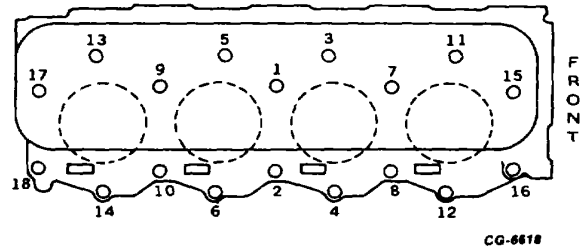

Figure 47. Cylinder Head Bolt Tightening Sequence
- c. Following sequence shown in (Figure 47) tighten cylinder head bolts the first two specified torques. Then for the final torque tighten the bolts in this sequence, 11, 3, 5, 13, 17, 9, 1, 7, 15, 16, 8, 2, 10, 18, 14, 6, 4 and 12. (See TORQUE CHART).